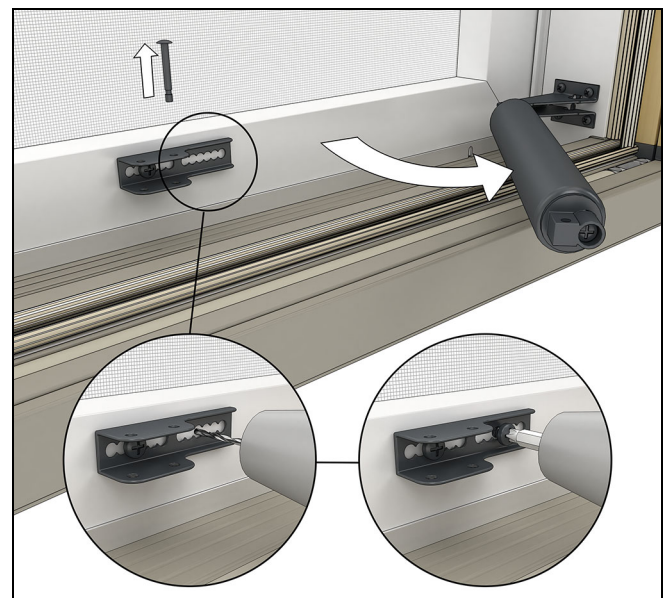

Figure 22
6. Remove the connecting pin and swing the closer out of the way. Pre-drill and attach the bracket through the second slot. See Figure 22. (Continue on on page 13)